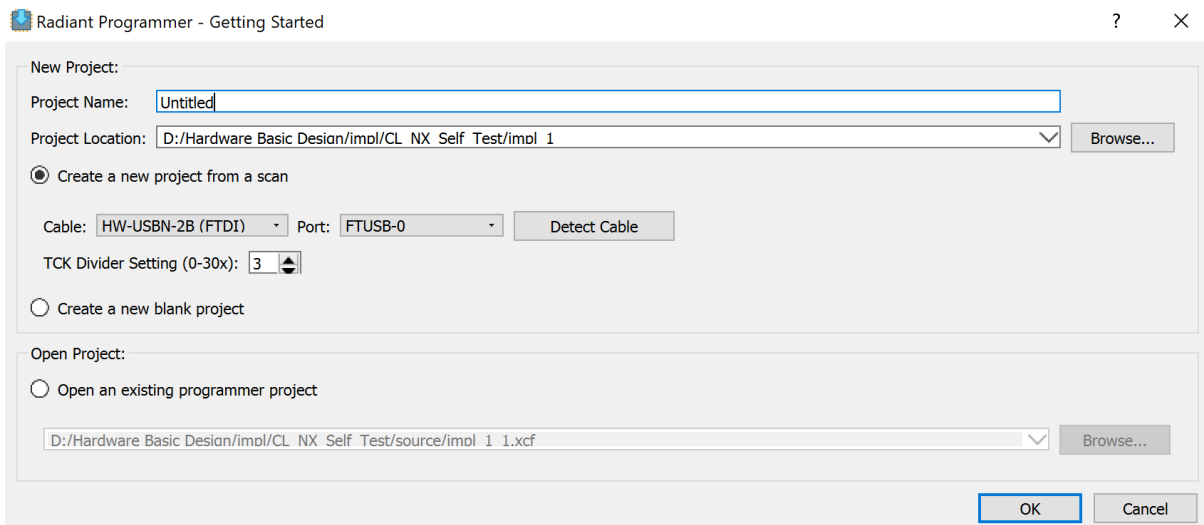

Figure 6.1. Stand-alone Radiant Programmer Opened from Windows Start Menu
3. If the Radiant project is already opened in Lattice Radiant software, click the Radiant Programmer  icon from the toolbar. If the project is not opened, click the Windows Start menu and choose *Radiant Programmer* to open the stand-alone Radiant Programmer. The Radiant Programmer - Getting Started dialog pops up (Figure 6.1). The default project name is *Untitled*. Enter a desired project name and browse to settle the project location from the Project Location area. Click **OK**.
5. If the settings you see are not the same as that shown in Figure 6.1, manually make changes and make settings (device family, device, and so on) the same as those shown in Figure 6.3.